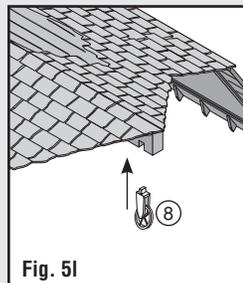

Fig. 5l
- Glue Pulley (8) in place underneath Roof (Fig. 5l).